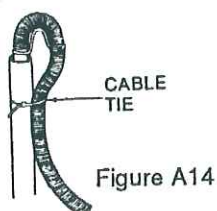

Figure A14
3. Place formed end of drain hose in drain pipe and secure with cable tie provided in enclosure package (Figures A14, A15, or A16).